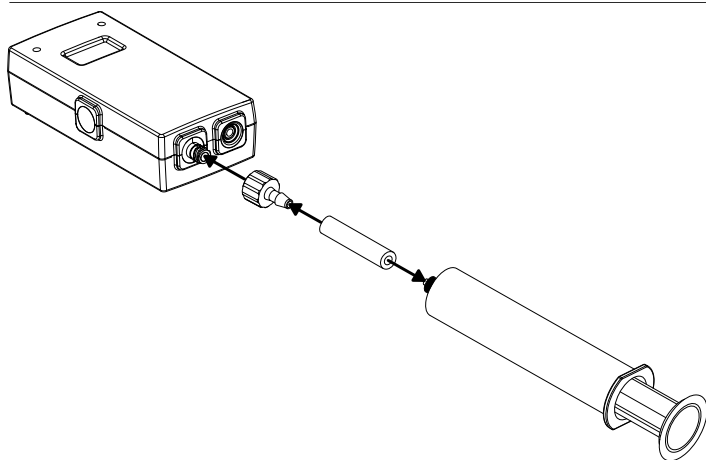

Figure 1
4. Connect the other end of the tubing to the tip of the syringe, as shown in Figure 1.